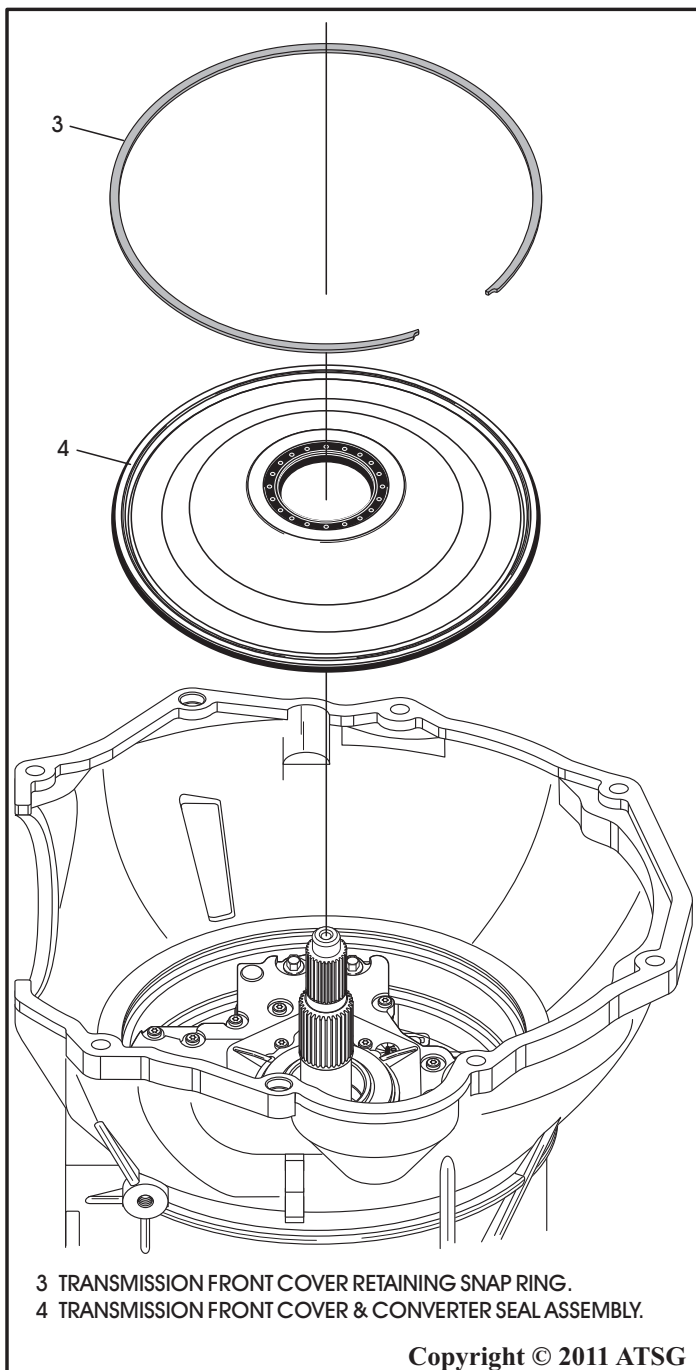

Figure 156
35. Install the front cover and seal assembly into the transmission case, as shown in Figure 156.
36. Install the front cover retaining snap ring into the groove in the case, as shown in Figure 156, and ensure it is fully seated.